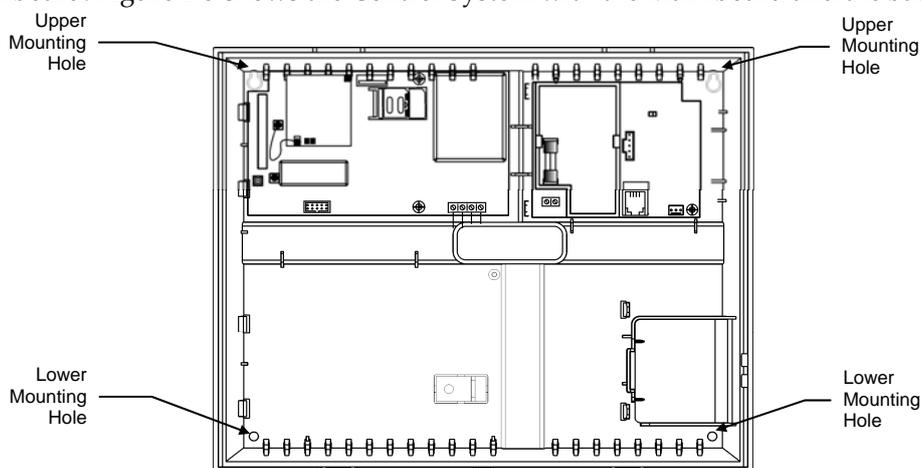

Figure 2-5: Back Cover (Main Board and Battery Pack removed)
3. Remove the backup battery pack. If you want to install the Control System with back tamper, it is also necessary to disconnect the flat cable connecting the Main board to the front panel keypad and remove the Main board. Figure 2-5 shows the Control System with the Main board and the battery pack removed.